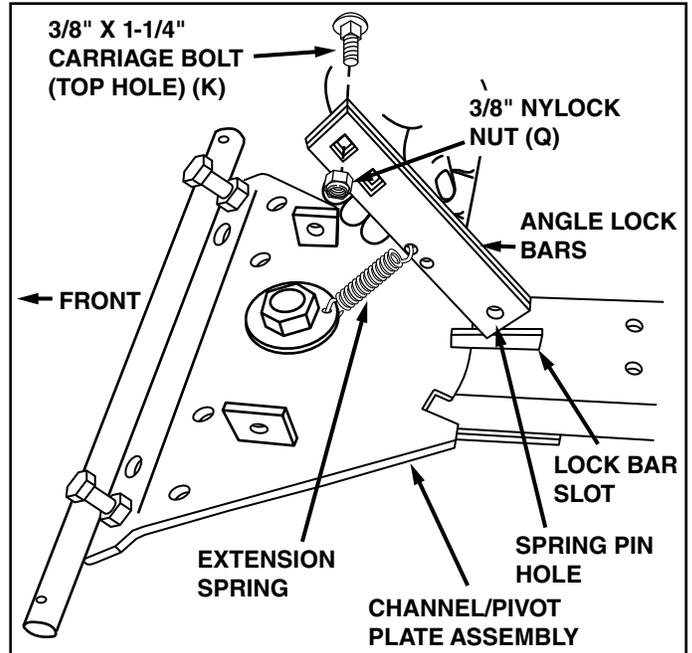

FIGURE 10
STEP 10: (SEE FIGURE 10 and 11)
- Assemble the two angle lock bars together using a 3/8" x 1-1/4" carriage bolt (K) and a 3/8" nylock nut (Q) in the top square holes. **Do not tighten.**